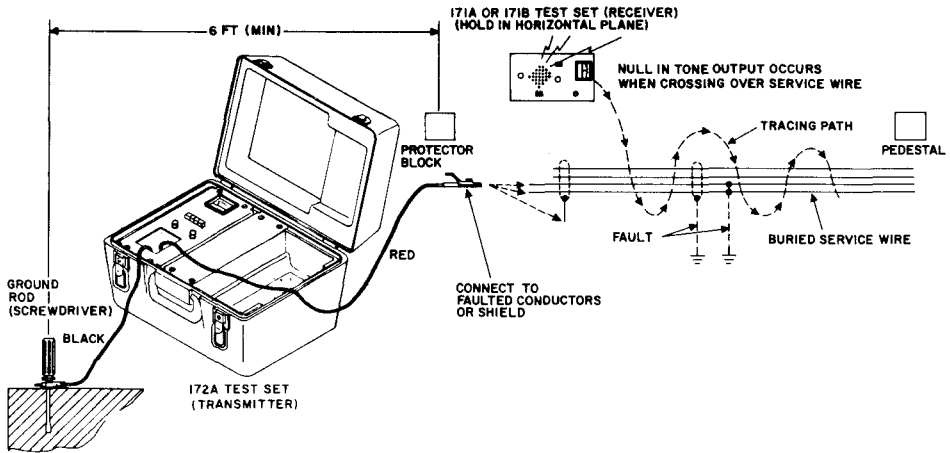

Fig. 9—Service Wire Tracing
SERVICE WIRE TRACING (Fig. 9)
(10) At the position where the null occurs, the service wire (Fig. 9) is located directly below the bull's-eye.
(11) Mark, or be sure to remember for future reference, the path of the buried service wire as it is being traced.